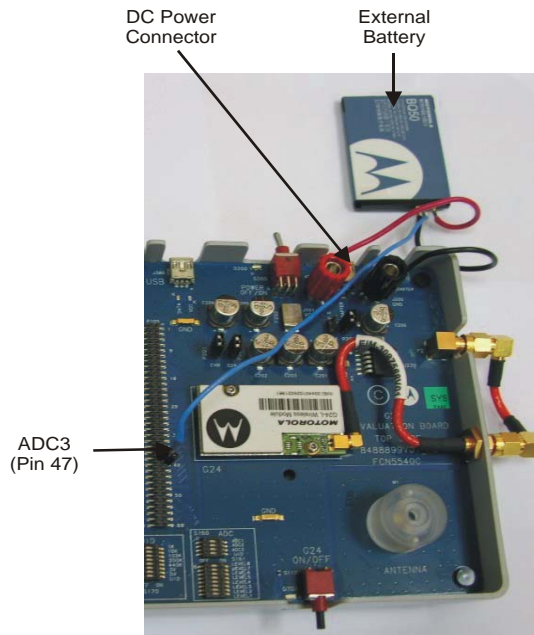

Figure C-2: Battery Connections
2. Attach the DC input connectors to the Developer Board (see Figure C-2).
4. Verify that the correct power source - P204 (P.S power jumper) is selected (see Figure C-2).